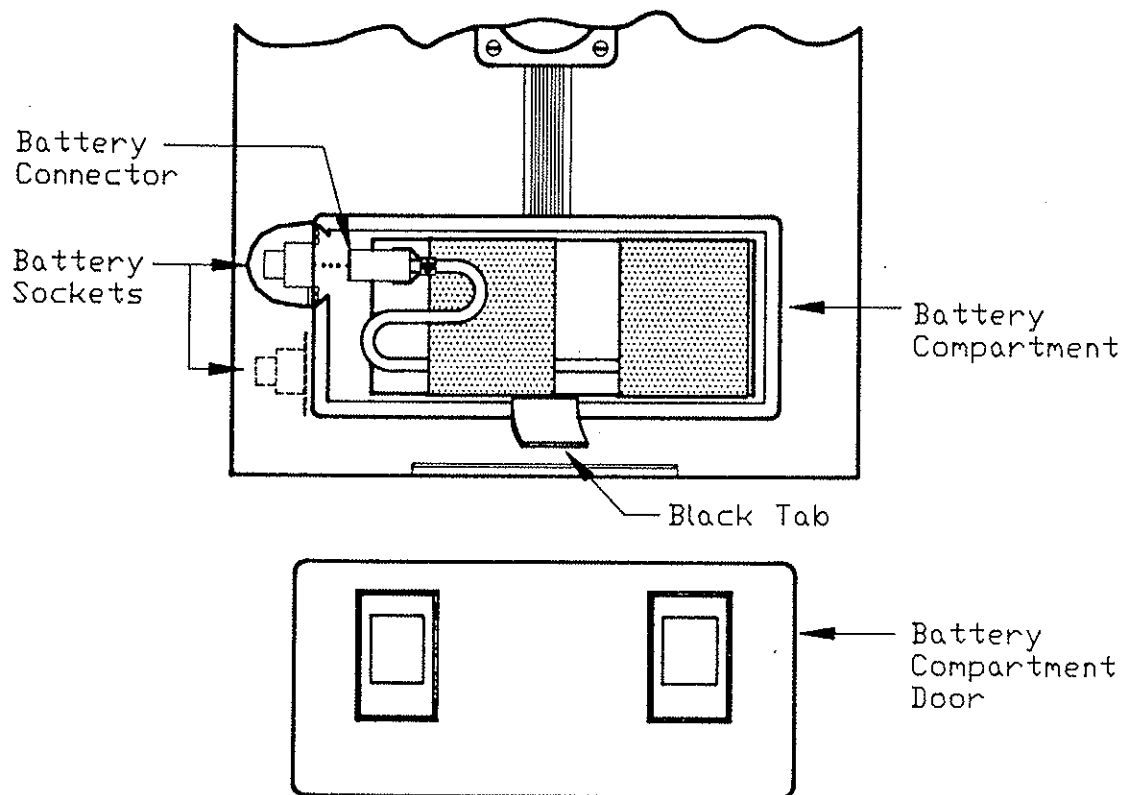

Figure 4: Position Of Battery Inside Compartment
8. Insert the connector of the battery into either socket on the left side of the compartment. The Autograv has two sockets so that you can change batteries without powering down the instrument (see figure 4).
10. Place the battery inside of the compartment with the top of the battery facing outwards and the battery cable to the left as shown in figure 4.